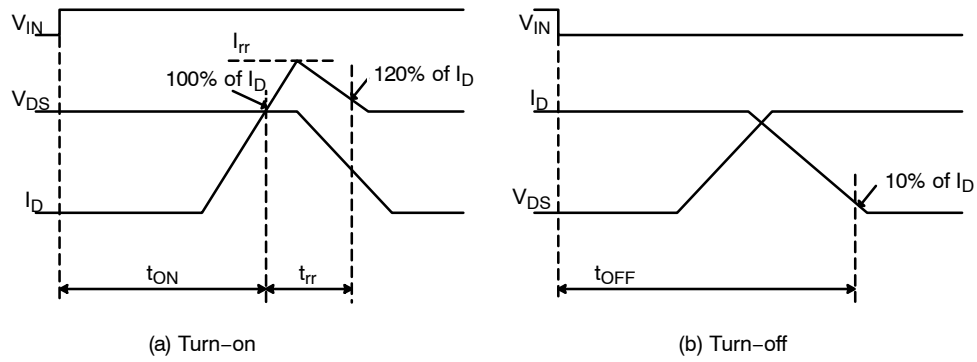
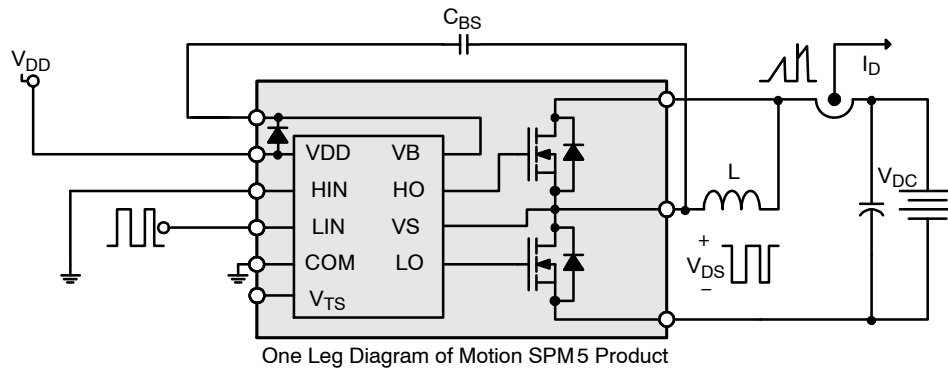

Figure 6. Switching Time Definitions
Figure 7. Switching and RBSOA (Single-Pulse) Test Circuit (Low-side)
- t_{ON} and t_{OFF} Include the Propagation Delay Time of the Internal Drive IC. Listed Values are Measured at the Laboratory Test Condition, and They Can be Different According to the Field Applications Due to the Effect of Different Printed Circuit Boards and Wirings. Please see Figure 6 for the Switching Time Definition with the Switching Test Circuit of Figure 7.